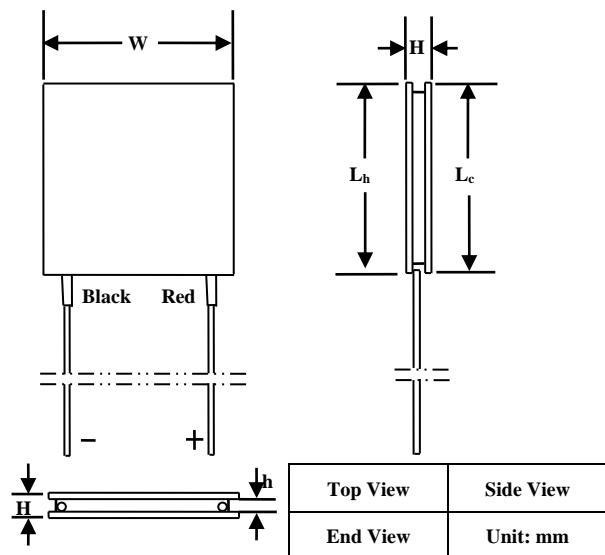

Figure 22. Mechanical Dimensions of Sealed ATE1-TC-127
**Note:** As Figure 22 shows, when the red lead wire is on the right, then the top surface is the cold side of the TEC.